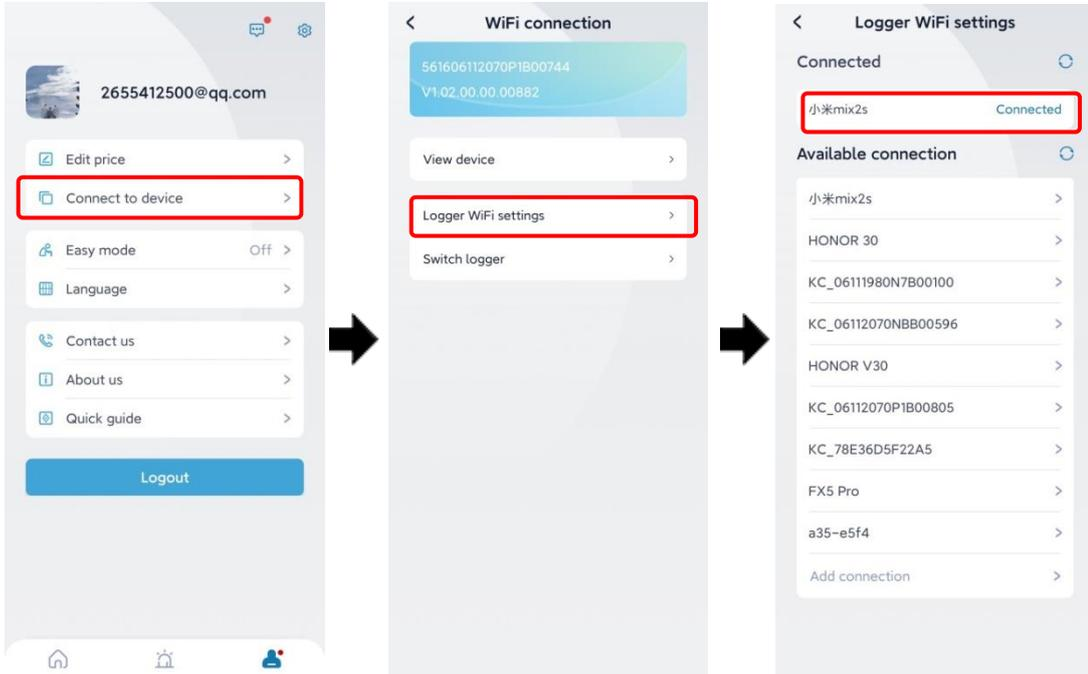

Figure4-10 Configure WiFi
Step 10 Click **Connect to device**, it will enter the WiFi connection page. Click **Logger WiFi settings**, select a available WiFi in hotspot list, when it prompts: **WiFi connected successfully**, click **OK**. At this time, the currently connected WiFi should show **Connected**, as shown in Figure4-10.